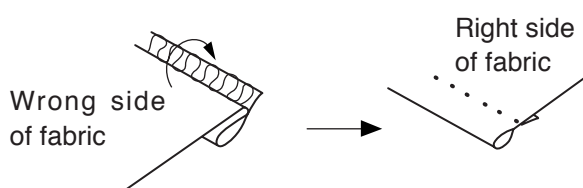

Fig.4
6. Open the cloth and iron (Fig. 4).